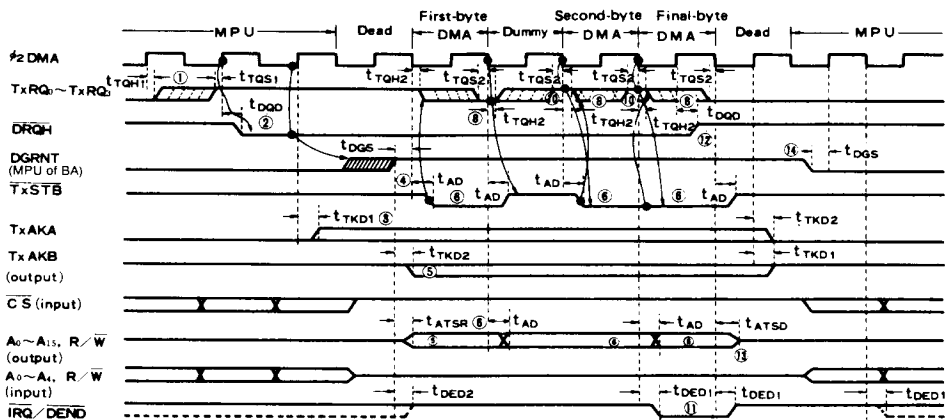

Figure 16 HALT Burst Mode
Its timing chart and flow chart are shown in Fig. 16 and Fig. 13 respectively. Procedure of transfer is the following (No. ① ~ ⑭ in Fig. 16 correspond to the following items).
- ① TxRQ input is checked at the rising edge of  $\phi_2$  DMA. When it is at "High" level, it gets into the following operation.
- ②  $\overline{DRQH}$ ="Low" level is given and MPU is requested to stop its operation.
- ③ TxAKA is driven.
- ④ MPU stops and DMAC waits for DGRNT rising "High" level.
- ⑤ When DGRNT rises "High" level, DMAC drives TxAKB,  $A_0 \sim A_{15}$ , and R/W lines.
- ⑥ TxSTB is sent out to perform DMA transfer.
- ⑦ Address is incremented or decremented by one and number of transfer words is decremented by one.
- ⑧ TxRQ falls to "Low" level.
- ⑨ When number of transfer words is 0, from ⑪ to ⑭ operations are performed.
- ⑩ When BCR is not "0", TxRQ is checked at the falling edge of  $\phi_2$  DMA. When TxRQ is at "High" level, DMA transfer is performed through ⑥ ~ ⑧ again. When TxRQ is not at "High" level, DMAC waits for becoming "High" level.
In burst mode, TxRQ should be also, in principle, set to "High" when I/O request is asserted, and reset to "Low" when TxSTB goes to "Low". If TxRQ is asserted as level input without being reset, DMA transfer is performed at all cycles of  $\phi_2$  DMA since TxRQ is always at "High" level at the falling edge of  $\phi_2$  DMA. Its example is shown in the second-byte and the third-byte transfer in Fig. 16.